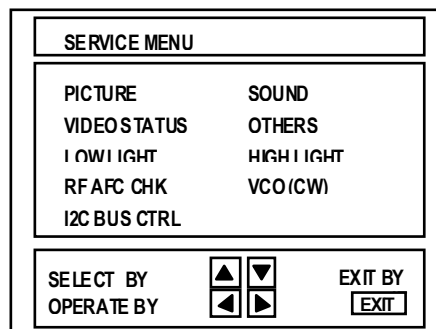

Fig.1
2. As shown in Fig.1, remove the **11** screws marked **(A)** and **2** screws marked **(B)**.
2. Draw the chassis backward along the chassis rail in the arrow direction marked **(C)** as shown in the Fig. 1.
1. As shown in Fig.1, remove the **4** screws marked **(D)**.
- 2) The SERVICE MENU screen is displayed as shown in Fig.1.
Verify what to set in the SERVICE MENU, and set whatever is necessary. (Fig.1) refer to the SERVICE ADJUSTMENT for setting.